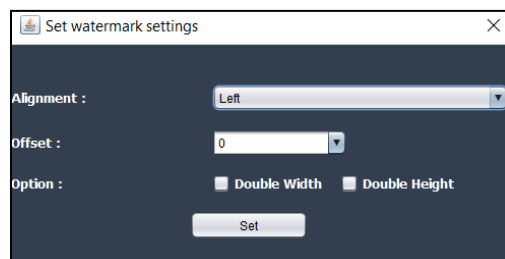

Figure 38 Set Watermark Settings Dialog
- Select “Set as Watermark” from the pop up menu to open the Set Watermark Settings Dialog. Please refer to Figure 38 Set Watermark Settings Dialog.